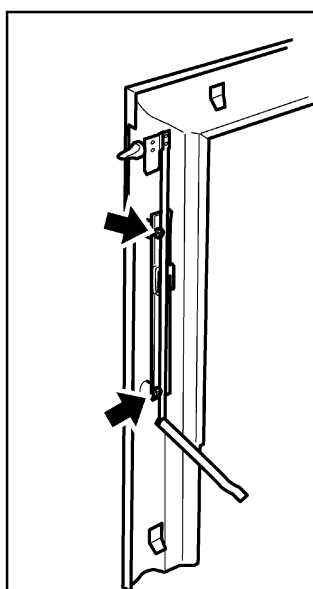

Figure 29. Attaching slider control to Dream fascia
1. Attach the slider control to the rear of the fascia using 2 'countersunk taptite' screws (See figure 29).